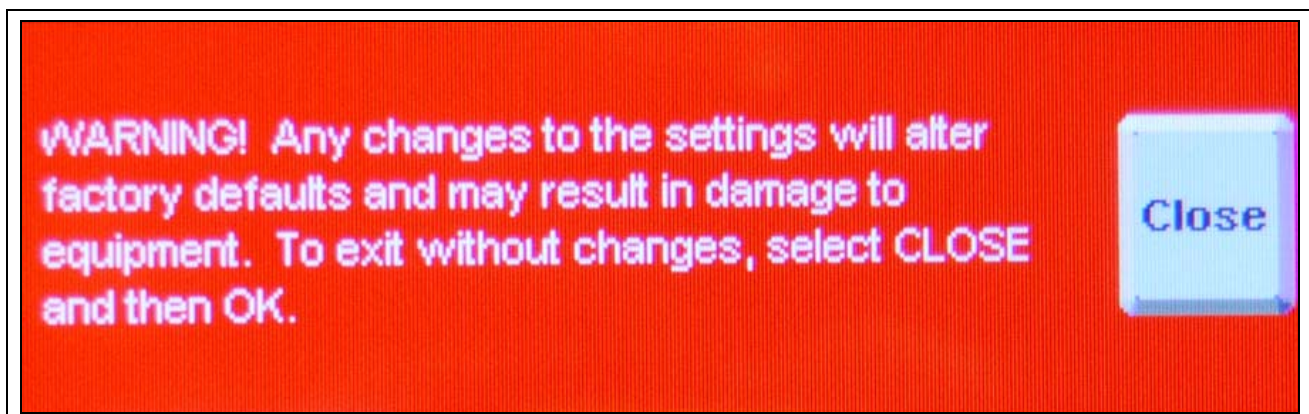

Figure 4J
**NOTE:** A warning message will appear if distributor has already been previously configured. (See Figure 4J.)